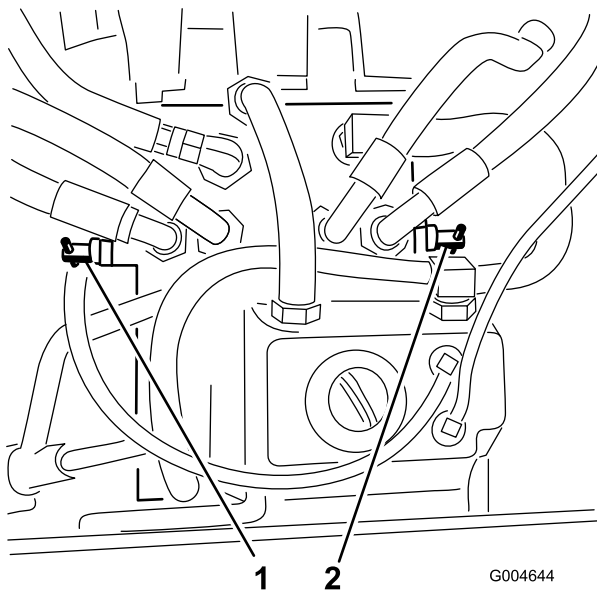

Figure 38
3. Rotate each by-pass valve counterclockwise 1 turn (Figure 38).
Rotate each by-pass valve clockwise 1 turn and hand tighten them (torque of approximately 71 in-lb (8 N·m)) (Figure 38).